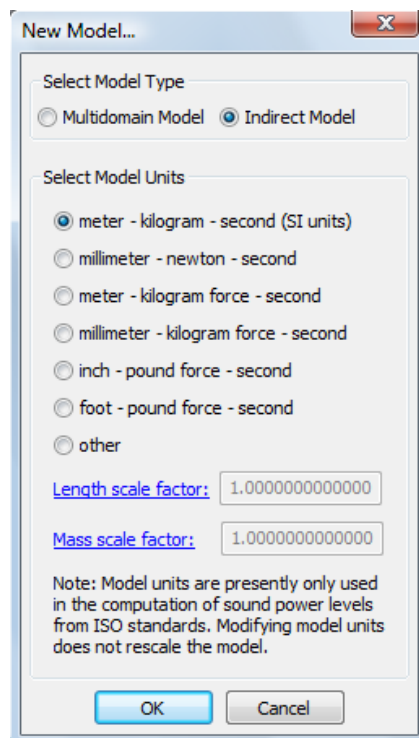

Figure 4: New Model Selection Window.
- In the main menu select: **File > New Model**. The window in Figure 4 will then appear.